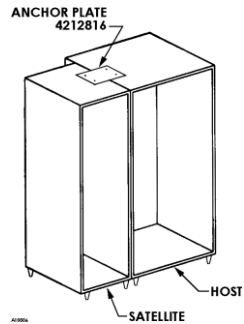

**Figure 4.6 Install 'Y' Harness**
4. If there was not a six (6) pin connector in the power box, install the MDB extension harness as explained in steps 5 and 6.
5. Open the door of the **Host Vendor**. Loosen the two nuts that hold the cover on over the control board. Remove the cover. Locate the MDB plug on the right side of the control board. Unplug the MDB machine harness and plug in the “Y” harness. Plug the machine’s MDB plug to the “Y” harness. See Figure 4.6.
6. Route the long leg of the “Y” harness down the door and over to the cabinet. Use cable ties to fasten the MDB harness to the motor harness. Locate the power box in the bottom right hand corner of the cabinet. Press the end through the hole in the power box. See Figure 4.6.